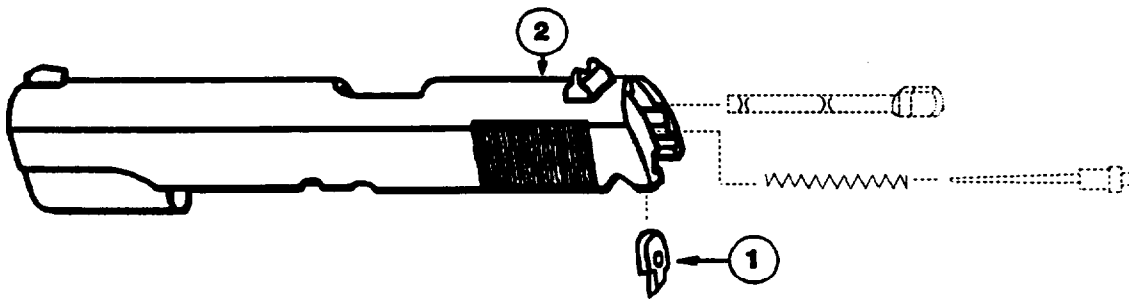
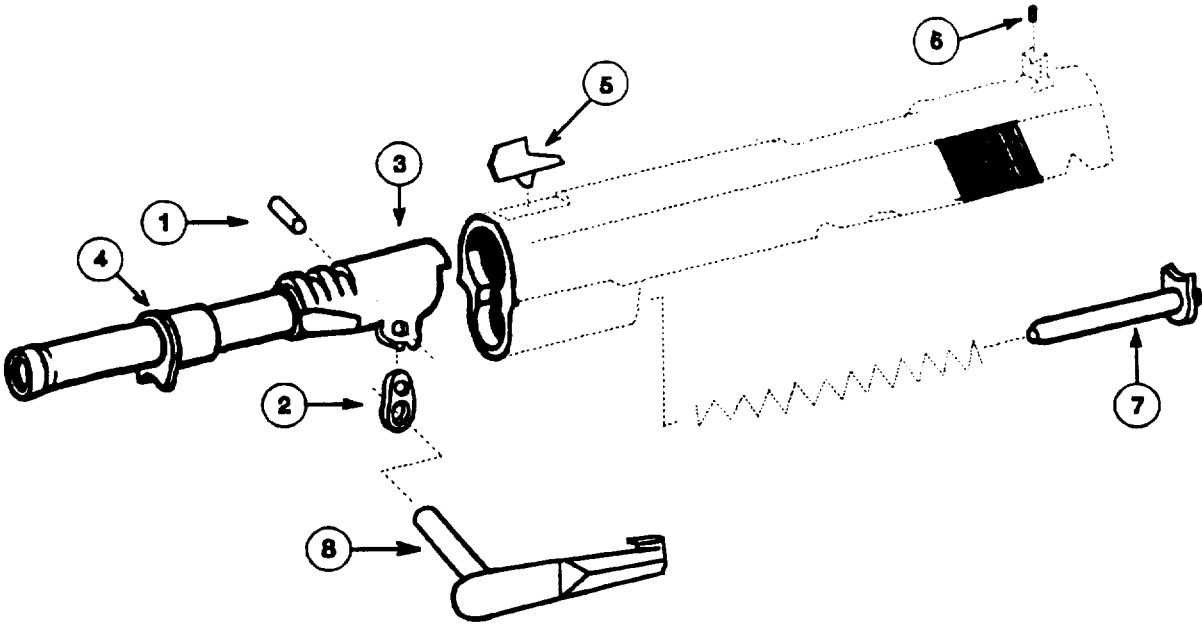
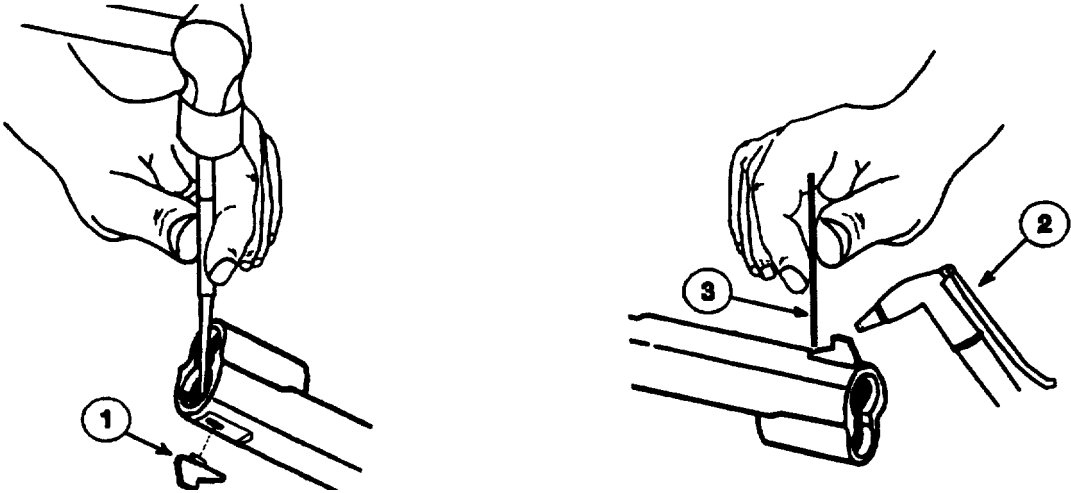

Figure 6-17. Firing Pin Group
Figure 6-18. Recoil Group
Figure 6-19. Removing And Installing Front Sight
6-13. MAINTENANCE OF THE SLIDE ASSEMBLY (Figures 6-17 thru 6-20)
(2) Using a 3/32” punch, depress the head of the firing pin and remove the firing pin stop (1), Figure 6-17, from the slide assembly (2).
(3) Disassemble the recoil group following the procedures outlined in para 6-3 of this Manual.
(4) Using a 5/32" punch and 4 oz hammer, drive out barrel link pin (1), Figure 6-18.
(5) Separate barrel link (2), Figure 6-18, from barrel (3).
(6) Separate barrel bushing (4), Figure 6-18, from barrel (3).
(7) Using a 5/32" punch and 4 oz hammer, remove front sight (5), Figure 6-18, only if damaged. Refer to Figure 6-19 for illustrated removal of front sight (1).
(8) Using a .050 hex head wrench, remove rear sight set screw (6), Figure 6-18, only if damaged.
(9) Separate recoil spring guide (7), Figure 6-18, from recoil spring.
(10) The slide stop (8), Figure 6-18, would have been removed from the pistol during initial field stripping procedures.
(1) Using a flashlight and jeweler's eyepiece, perform a technical inspection the slide (2), Figure 6-17, and on the barrel (3), Figure 6-18. Check for burrs, pits, bulges or distortions. Check for the sharpness of the lands and crown. Inspect the face of the slide for cracks, chips or gouges. If any of these conditions "can not be corrected, evacuate the pistol to special fifth echelon maintenance for replacement of the slide or slide assembly. Shipping procedures are outlined in para 4-10 of this Manual.
(3) Inspect firing pin stop (1), Figure 6-17, for cracks, chips or burrs. If unserviceable, replace firing pin stop.
(4) Inspect barrel link pin (1), Figure 6-18, and barrel link (2) for burrs and distortions. If unserviceable, replace barrel link or barrel link pin.
(5) Inspect barrel bushing (4), Figure 6-18, for burrs and distortions. If unserviceable, replace barrel bushing.
(6) Inspect front sight (5), Figure 6-18, for burrs and distortions. Check that front sight is securely attached to slide assembly. If unserviceable, replace front sight. If loose, clean area thoroughly and reapply silver solder.
(7) Check that the set screw (6), Figure 6-18, securing the rear sight is tight. If loose, tighten with .050 hex head wrench. If rear sight is unserviceable, evacuate the pistol to special fifth echelon maintenance for replacement of the rear sight.
(8) Inspect recoil spring guide (7), Figure 6-18, for burrs and distortions. If unserviceable, replace recoil spring guide.
(9) Inspect slide stop (8), Figure 6-18, for burrs and distortions. If unserviceable, replace slide stop.
(1) Use a 5/32" punch and 4 oz hammer to install barrel link pin (1), Figure 6-18, through barrel link (2) and barrel (3).
(2) If the front sight was removed, use a welding torch (2), Figure 6-19, to sweat silver solder (3) around front sight (1) to secure it to the slide assembly.
(3) If this is a new firing pin stop (1), Figure 6-17, use a power grinder with the carbide burr to cut a radius on the lower right corner sufficient to clear the receiver assembly. Position firing pin stop into the slot within the slide assembly (2).
(4) Reassemble the recoil group into the slide assembly by following the procedures outlined in para 6-3 of this Manual.
(5) Reassemble slide assembly to receiver assembly by following the procedures outlined in para 3-3 of this Manual or in TM 00526A-10/1, Operator's Manual.
(6) Once the pistol is completely reassembled, perform the safety checks outlined in para 6-18 of this Manual.